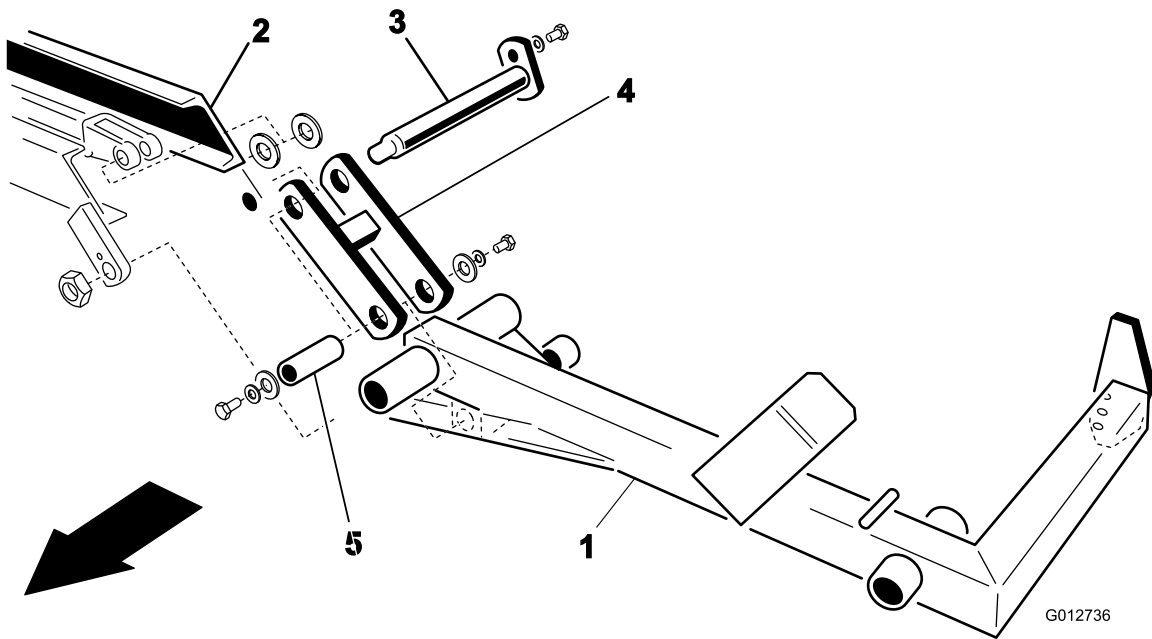

Figure 6
1. Loosely mount the appropriate lift arm (right or left) to the front cross channel with the lift bail pin and a locknut (3/4 inch) as shown in Figure 6.
2. Secure the end of the lift bail pin to the side of the front cross channel with a bolt (3/16 x 3/4 inch) and lock washer (3/16 inch) as shown in Figure 6.
5. Secure the end of the link to the bottom of the lift arm with a shaft, 2 flatwashers, 2 lock washers (3/8 inch), and 2 bolts (3/8 x 1 inch) as shown in Figure 6.
- Mount the other end of the link to the hydraulic cylinder with 2 larger flat washers, flat washers, lock washers (3/8 inch), and bolts (3/8 x 1 inch) as shown in Figure 6. Position the larger flat washers between the link and the hydraulic cylinder end.